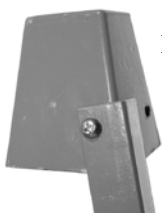

Figure 7
Fasten the four Top Legs (R) on the outside of the Mast Head (A), by aligning the pre-drilled holes in each piece and securing with a Brace Screw (L) and Brace Nut (M). (Figure 7)